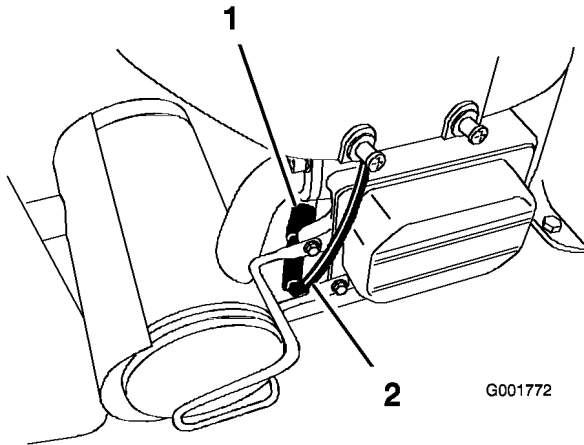

Figure 28
2. Pull the wire off of the spark plug (Figure 28). Clean around the spark plug to prevent dirt
3. Push the wire onto the spark plug (Figure 28).